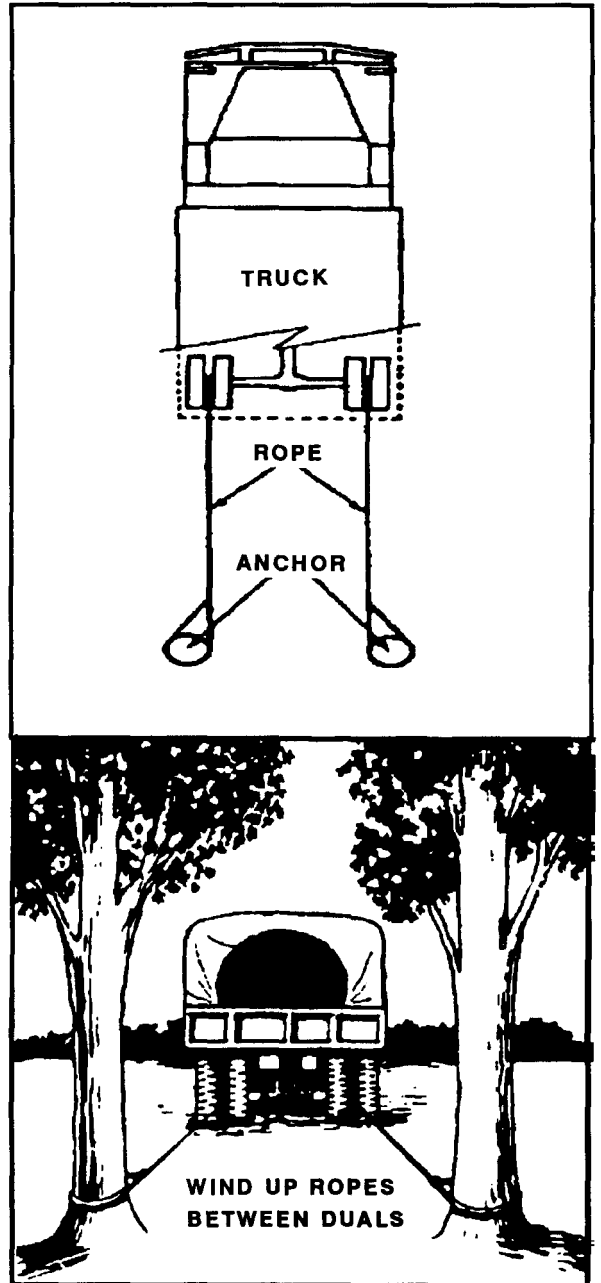

FIGURE 22-4. Dual Wheels and Rope Used as a Winch.
**Vehicle Without Winch (Dual Wheels).** Dual wheels and ropes may be used to winch out vehicles not equipped with winches (Figure 22-4). Fasten one end of each rope to a rear wheel hub and the other to an anchor. Place the rope between the duals and through one of the holes in the wheel disk. Tie the rope around the hub where it will be clear of the valve stem. Move the vehicle in reverse gear to wind the rope.